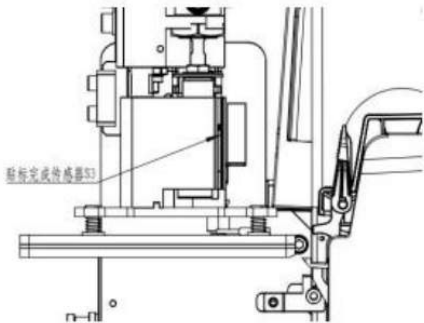

图2
块调整至需要位置再锁紧螺钉。调整上下高度时，松开滑动块固定的两个螺钉，旋转上方调整螺钉，逆时针旋转吹标板向上移动，顺时针吸标板向下移动。见图 2。
...to the required position, then tighten the screws. When adjusting the up-down height, loosen the two screws fixing the sliding block and rotate the upper adjustment screw: counterclockwise moves the blow-label plate upward, clockwise moves the suction plate downward. See Figure 2.
9、（如图 2 位置）贴标时检查贴标完成传感器 S3 在触碰贴标物体时是否亮灯。贴标时下方无物体时贴标臂会下落到最大行程处停止，保持一小段时间（5s）会自动缩回，此时会提示贴标臂错误 S3 报警。
9. (At the position in Figure 2) During labeling, check whether the labeling-complete sensor S3 lights up when touching the labeled object. When there is no object below during labeling, the labeling arm drops to the maximum stroke and stops, holds for a short time (5 s) and automatically retracts; at this point an S3 labeling arm error alarm is prompted.